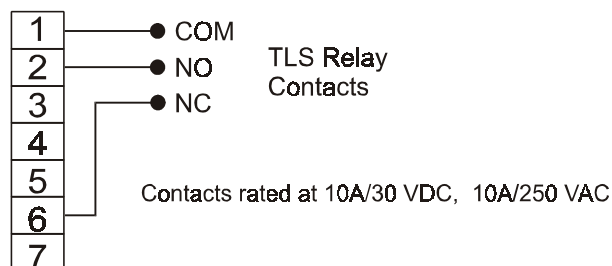

Figure 24 - TLS RELAY CONNECTIONS
- b) Connect any necessary external circuits to the TLS relay contacts as shown in figure 24.